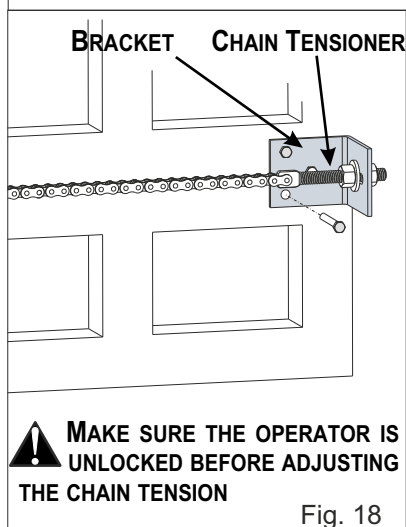

Fig. 18
**8.1.** Secure two sturdy brackets at the two extremities of the gate for attaching the chain (Fig. 18)
**8.2.** Install a chain tensioners on each bracket in order to regulate the chain tension (Fig. 18)